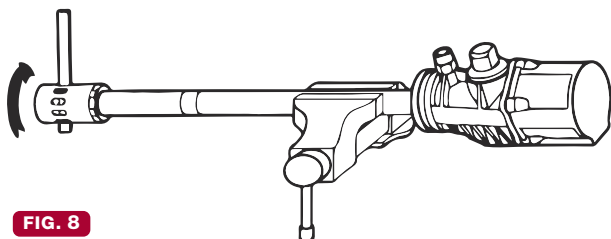

FIG. 8
2. Unscrew the intake filter tube (42) from the intake filter head (39) (fig. 8).
2. Skruva bort filterröret (42) från muttern (39) (fig 8)